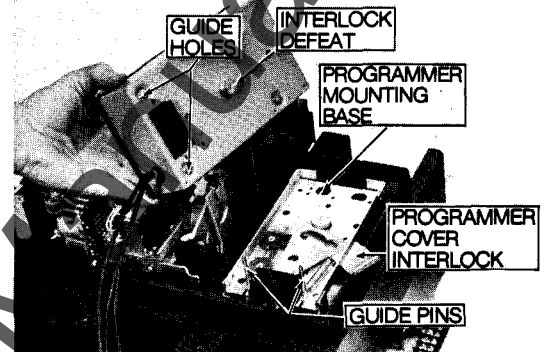

Figure 17. Aligning Programmer To Base
- a) Align holes in bottom of programmer box with guide pins of frame mounting plate. Lower programmer until it is fully down on the mounting plate and the connecting plug is secure (Fig. 17).
1. Cover Removal-Manual Breaker (Fig. 17).